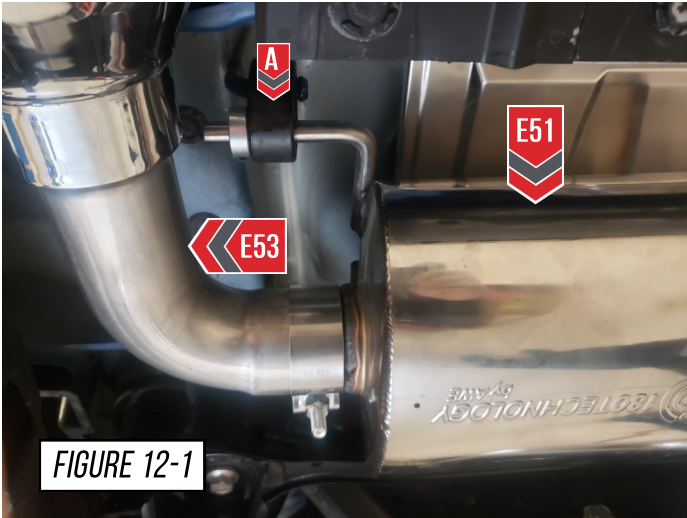
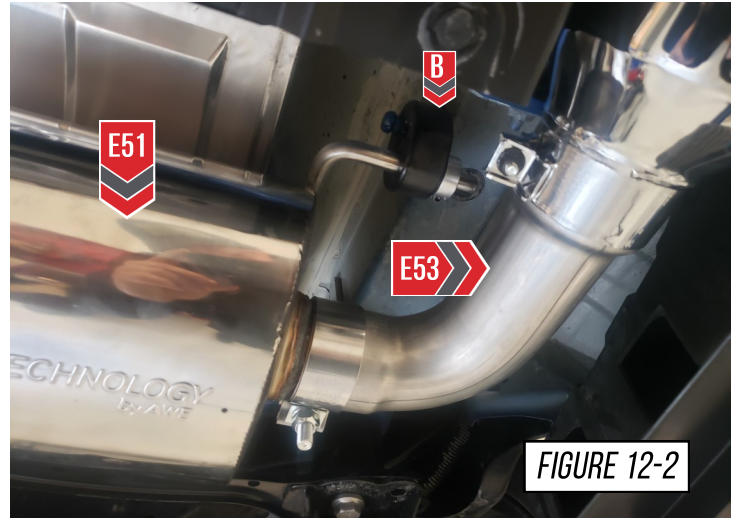

FIGURE 12-1
FIGURE 12-2
With the desired tip location achieved install the provided lock collars on the rear most hangers as shown at (A) in **Figure 12-1**, and at (B) **Figure 12-2**.